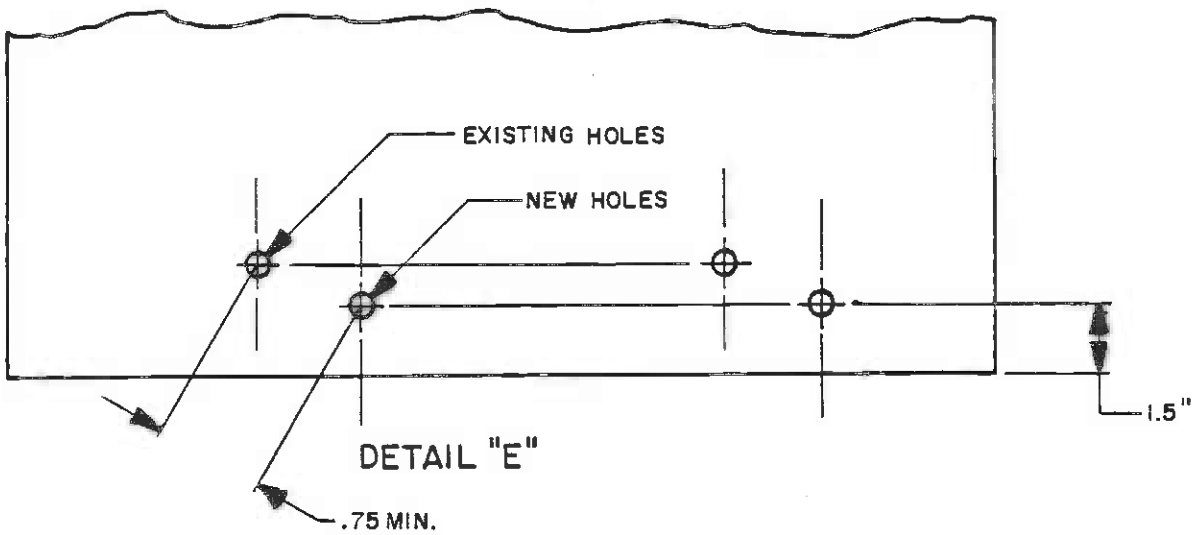

Figure 1
During the next one hundred (100) hour inspection or annual inspection, whichever comes first, visually inspect the two elevator outboard drain holes. If the drain holes are more than 1.5 inches from the trailing edge, add .32 dia. holes at 1.5 inches forward of the trailing edge. See Figure 1.
A minimum center-to-center distance of .75 is to be maintained between existing and new holes. New holes may be offset to arrive at the .75 minimum dimension. New holes are to be located as close as possible to Station 53.72 and 63.56. See Figure 1.